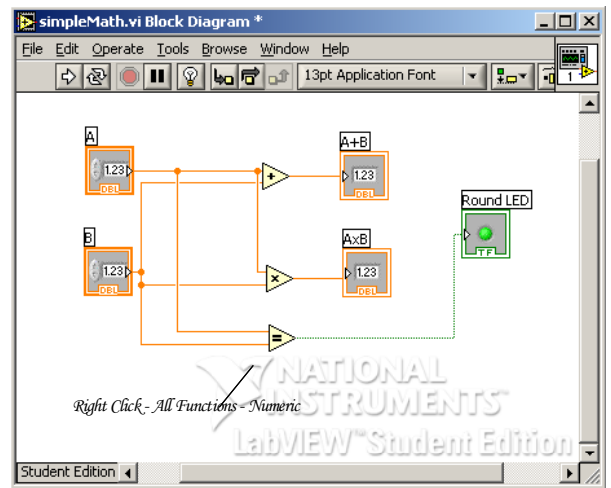

Figure 1B: Block Diagram
**Step 2:** Create the block diagram. The block diagram (Figure 1B above) is invoked by clicking Window – Show Block Diagram from the panel's menu bar. Again, one right clicks the mouse to bring up a menu of block element functions.